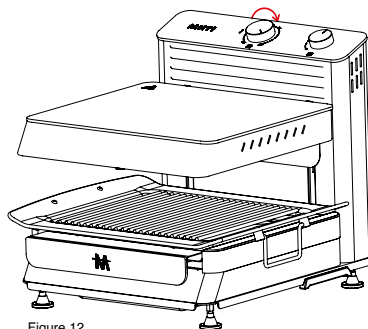

Figure 12
- Turn the power setting button to 100 and run the product for approximately ~ 5-10 minutes without any load and then turn it off. In this way, any waste and layers that may have remained in the product during production will be burned and cleaned. During this process, a one-time odor and smoke may come out of the product due to the heating elements. Ventilate your environment to avoid being bothered by the odor and smoke. (Figure 12).